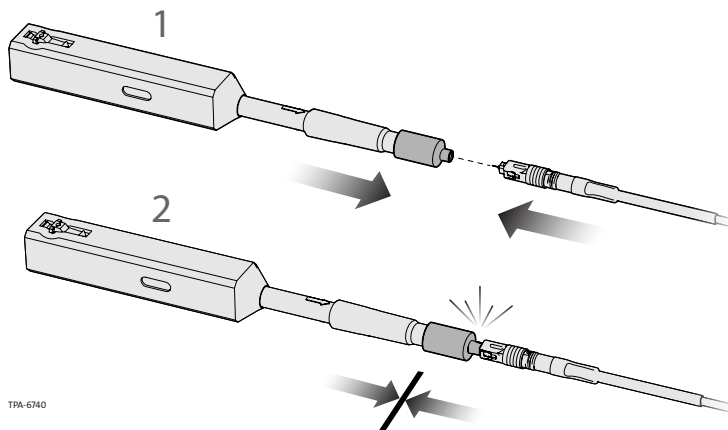

Figure 6
- b) Push the cleaning tool and connector together until an audible “CLICK” is heard (Figure 6).